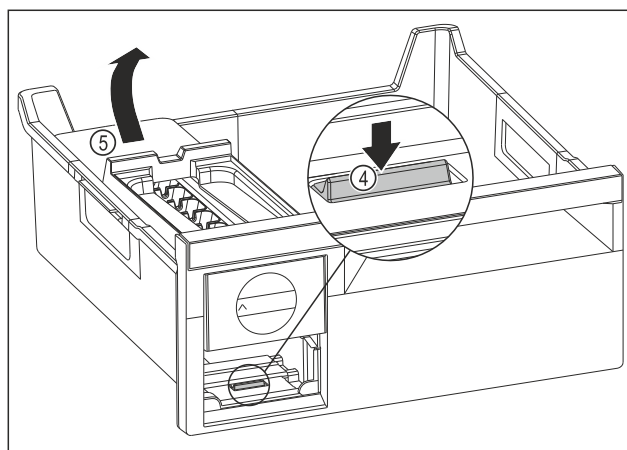

Fig. 83
- Removing the EasyTwist-Ice body: Use your finger to push the tab Fig. 83 (4) down and use your other hand to lift the EasyTwist-Ice body Fig. 83 (5) from behind at the same time.